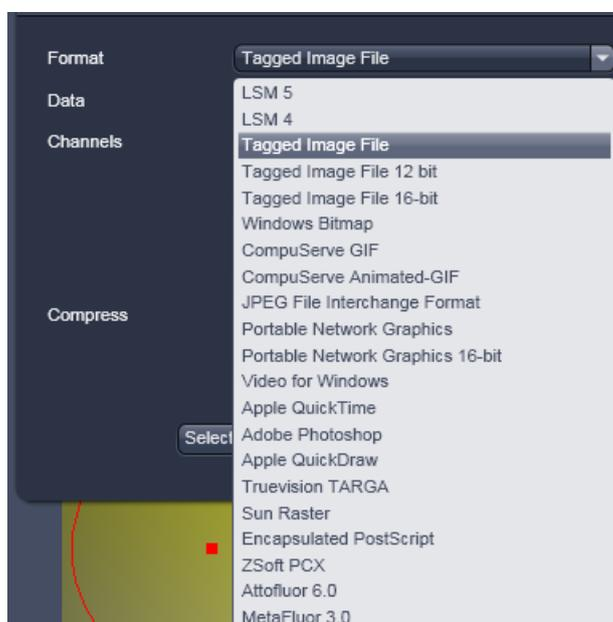

Fig. 283 Format selection
- Under **Format**, select the format to which the image is to be exported to (Fig. 283).